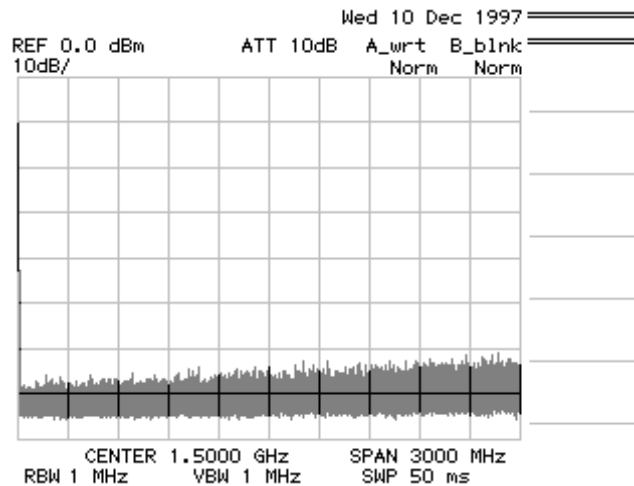

Figure 1-5 Screen Display after Self Tests have Completed
The spectrum analyzer performs the Initial test for approximately three seconds, then displays the start-up screen as shown in Figure 1-5.
**NOTE:** *There is a possibility that the screen display is different from the one shown in Figure 1-5, depending on previously saved conditions.*
The startup screen is displayed as shown in Figure 1-5.